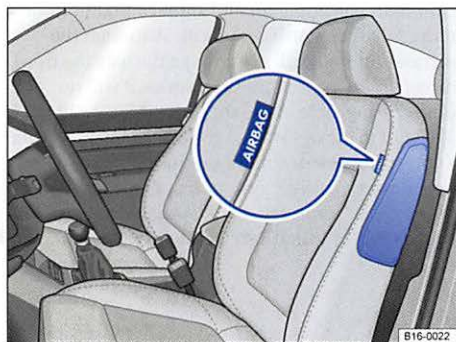

Fig. 61 On the outer sides of the front seats: location of the side airbags.
The side airbags are in the backrest padding of the driver and passenger seats ⇒ fig. 61. Depending on the model, there also might be side airbags installed for the rear outer seats, located between the ▶
- Never place or attach accessories or other objects (such as cup holders, telephone brackets, or even large, bulky objects) on the doors or over or near the area marked "AIRBAG" on the seat backrests ⇒ page 96, fig. 61.